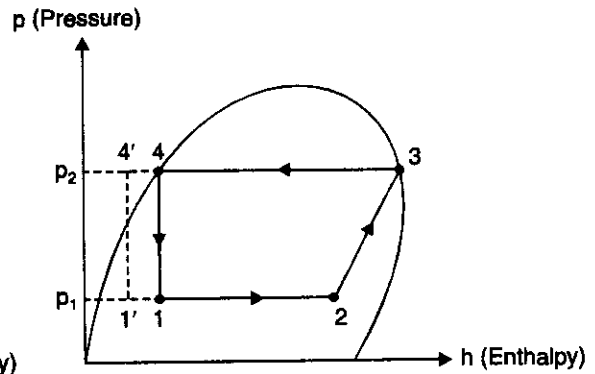

Fig. 14.18. Effect of sub-cooling of liquid.
**4. Effect of sub-cooling of liquid.** 'Sub-cooling' is the process of cooling the liquid refrigerant below the condensing temperature for a given pressure. In Fig. 14.18 the process of sub-cooling is shown by 4-4'. As is evident from the figure the effect of sub-cooling is to increase the refrigerating effect. Thus sub-cooling results in increase of C.O.P. provided that no further energy has to be spent to obtain the extra cold coolant required.